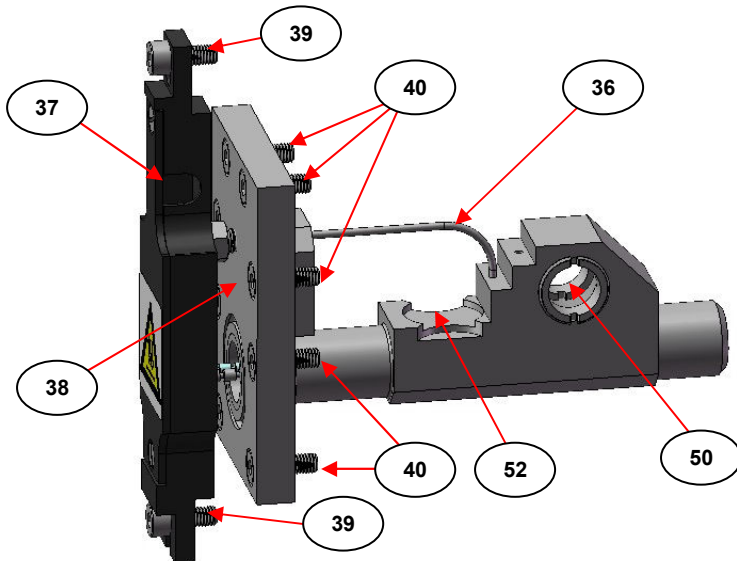
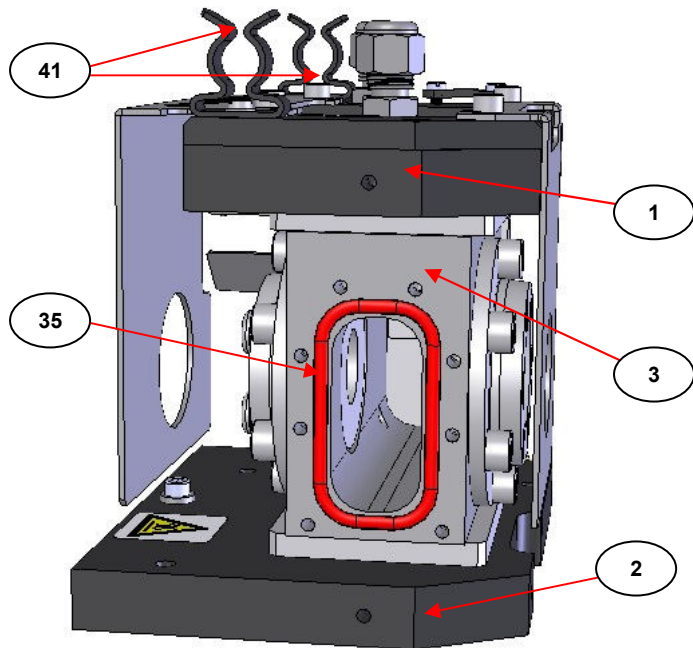
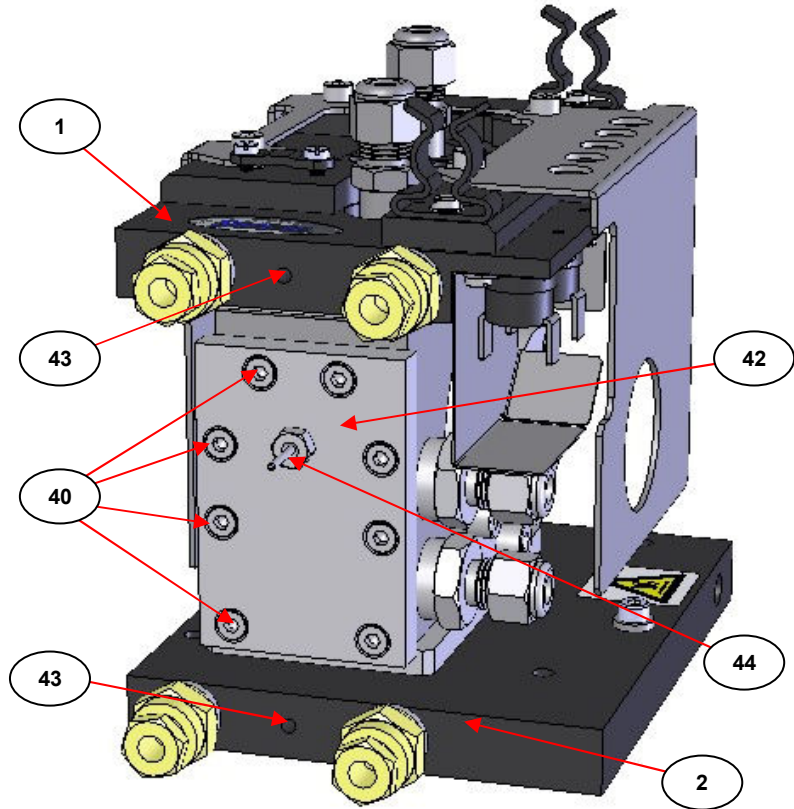
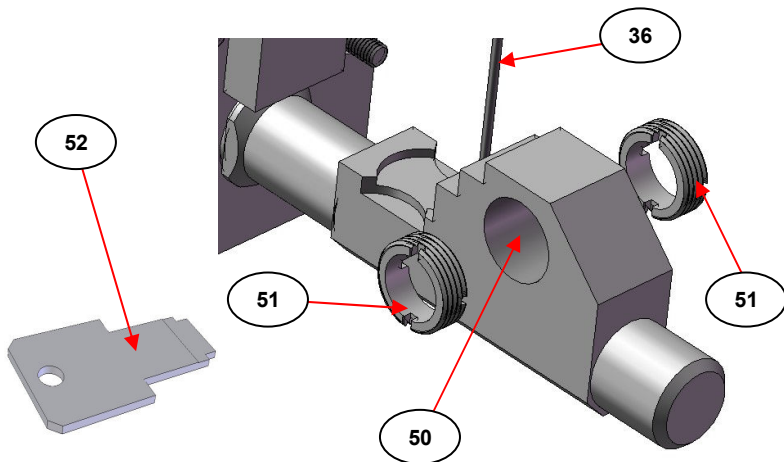

Fig 19. Heater Block Assembly (10) for Sample Introduction
Fig 20B. HTHP Cell Heater Block Assembly (10) Removed from HTHP Cell Body (3) for Decomposition Mode of Operation
Fig 21. End Plate of the HTHP Cell Opposite to the Wiring Strap and End Plate of the Heater Block Assembly (10)
Fig 26. Heater Block Assembly (10) Transmission Sample Position
There is a single power lead connection to the HTHP Cell which terminates in a 19 way plug for connection to the rear panel of the temperature controller. The 19 way plug simply pushes onto its corresponding connector at the rear of the temperature controller and is locked into position by rotation of the connecting collar on the plug itself. The electrical supply for all the heaters and connection to the thermocouple (36) in the sample heater block assembly (10) is routed ultimately through this single lead connection via a wiring strap (37) prior to passing through the end sealing plate (38). (See Fig 19.)
The wiring strap (37) is affixed into position on either side of the HTHP Cell chamber using two M4 x 10mm stainless steel cap head screws (39). The two fixing screws (39) are screwed into the upper (1) and lower (2) water cooled plates. (See Fig 19.) The sealing end plate (38) is affixed into position using eight M4 x 10mm High Tensile plated cap head screws (40) that screw into the end of the cell body (3). Similar to the pressure certified window assemblies (11), the end plate (38) forms a seal by use of a silicone O-ring (35) that fits into a grooved recess in the side of the HTHP Cell body (3). (See Fig 20B.)
When all of the fixing screws (39) and (40) have been removed, the heater block assembly (10) can be pulled away and out from the HTHP Cell chamber by manipulation of the end plate (38). (See Fig 20B.) The silicone O-ring seal (35) may be retained in its groove on the end face of the cell body (3) or it may come away attached to the surface of the end plate (38). Similar to the same type of silicone O-ring seal (35) as used with the pressure certified window assemblies (11), when removing the end plate (38) and for subsequent re-fitting, the silicone O-ring seal (35) should be inspected for its condition and cleaned. If there is any damage or imperfections, then it should be replaced with new.
There is a corresponding end plate assembly (42) that is fitted by eight fixing screws (40) to the end of the HTHP Cell body (3) directly opposite the wiring strap (37) and end plate (38) parts of the heater block assembly (10). (See Fig 21.) Similar to the end plate (38) of the heater block assembly (10), the end plate (42) is sealed to the HTHP Cell body (3) by use of a silicone O-ring (35) when the fixing screws (40) have been tightened. (See Fig 20B.)
Taking the end plate (42) as an example of the two end plates to refit, ensure that the silicone O-ring (35) is of good quality and is fitted correctly into its groove on the end face of the HTHP Cell Chamber body (see Fig 20B.) Offer up the end plate (42) ensuring correct alignment of the eight screw holes on the end plate (42) with the threaded holes on the cell body (3). Fit the eight fixing screws (40) into position and tighten them using the 3mm adapter with the torque wrench supplied in a “cross diagonal” sequence of (40-1) then (40-5), (40-2) then (40-6), (40-3) then (40-7) and finally (40-4) then (40-8) until they are all just hand tight. The aim is to bring the end plate (29) surface into contact for an even and level fit all around its circumference when against the surface of the HTHP Cell body (3). Then continue in this sequence to tighten the screws (40) to a set torque value of 60cNm from the torque wrench.
In the centre of the end plate (42) there is a blocked off aperture hole consisting of a 1/16” Swagelok union and ferrule set fitted with a blanking rod (44). (See Fig 21.) If the additional monitoring thermocouple is to be used, it is introduced into the HTHP Cell chamber through the aperture hole of the end plate (42). To use the monitoring thermocouple the blanking rod is removed from the end plate (42) by undoing the Swagelok union (44). The blanking rod and its ferrule are removed from the Swagelok union (44) and the monitoring thermocouple rod is placed into the Swagelok union instead. (Make sure the metal tip of the thermocouple rod passes through the hexagonal "nut" end of the Swagelok union first). Take one of the spare 1/16” ferrules provided with the HTHP Cell kit of parts to place around the thermocouple rod tip and to seal against the Swagelok union (44) when the thermocouple rod tip is to be sealed into the end plate (42).
For the **transmission** mode of sampling, a solid sample type is placed into the 13mm diameter aperture hole (50) of the heater block assembly (10). (See Fig 19. and Fig 26.)